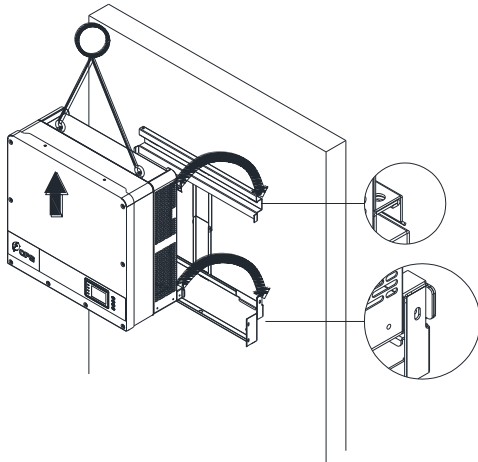
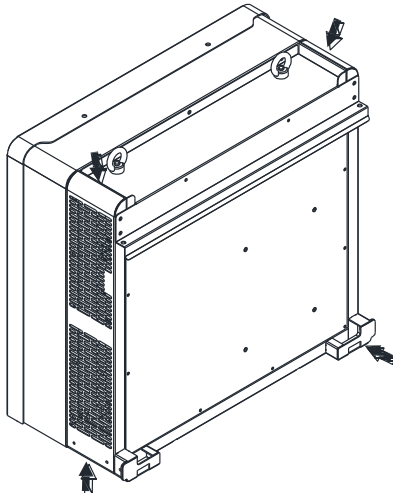

Figure 3-9 Mount the Main Enclosure on the Bracket by Lifting Sling
Figure 3-10 Grab Handle Position
Step 2 Hang the inverter onto the mounting bracket as shown in Figure 3-9 and Figure 3-10:
- (b) Manual mounting: Two people are required to safely lift the inverter by the grab handle positions marked in Figure 3-10 and mount it onto the bracket.